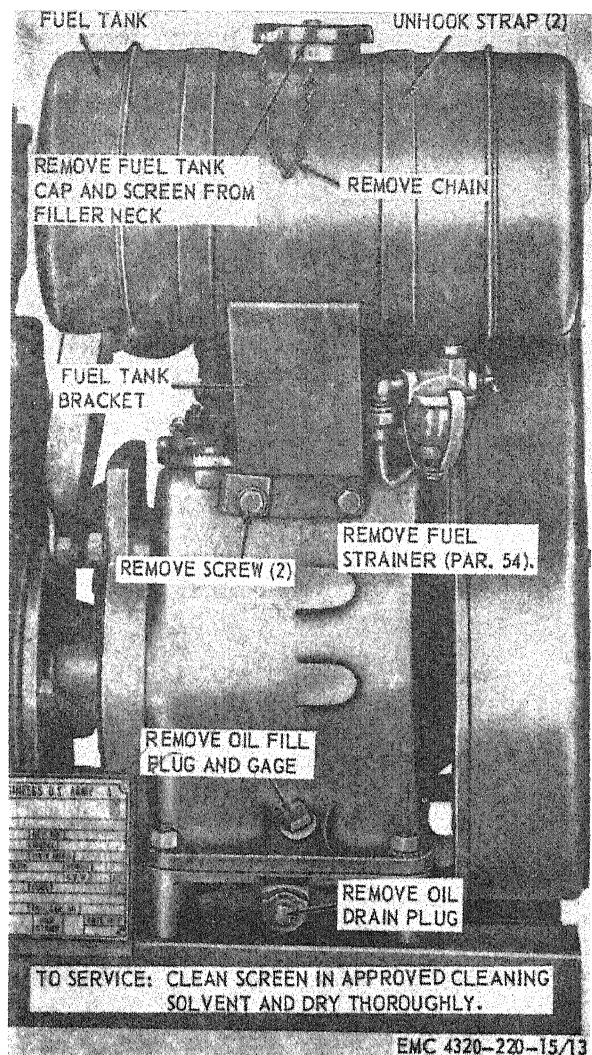

Figure 13. Fuel tank, cab, strainer, screen, oil fill plug and gage, and oil drain plug, removal and installation.
- Remove and install the assembled fuel tank, cap, screen, and bracket from the cylinder crankcase as shown by figure 13.
- Remove and install the oil fill plug and gage and oil drain plug as shown by figure 13.